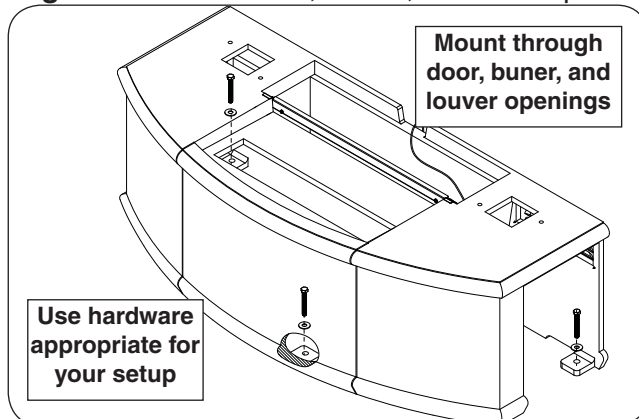

Fig. 19-3 Mount unit to floor (if applicable)
5. **695 models only:** Using appropriate mounting hardware for the floor material/construction, secure the hearth into the floor. The interior of the base has three  $\frac{1}{2}$ " holes that will allow for the hearth to be fastened to the floor. See Fig. 19-3.